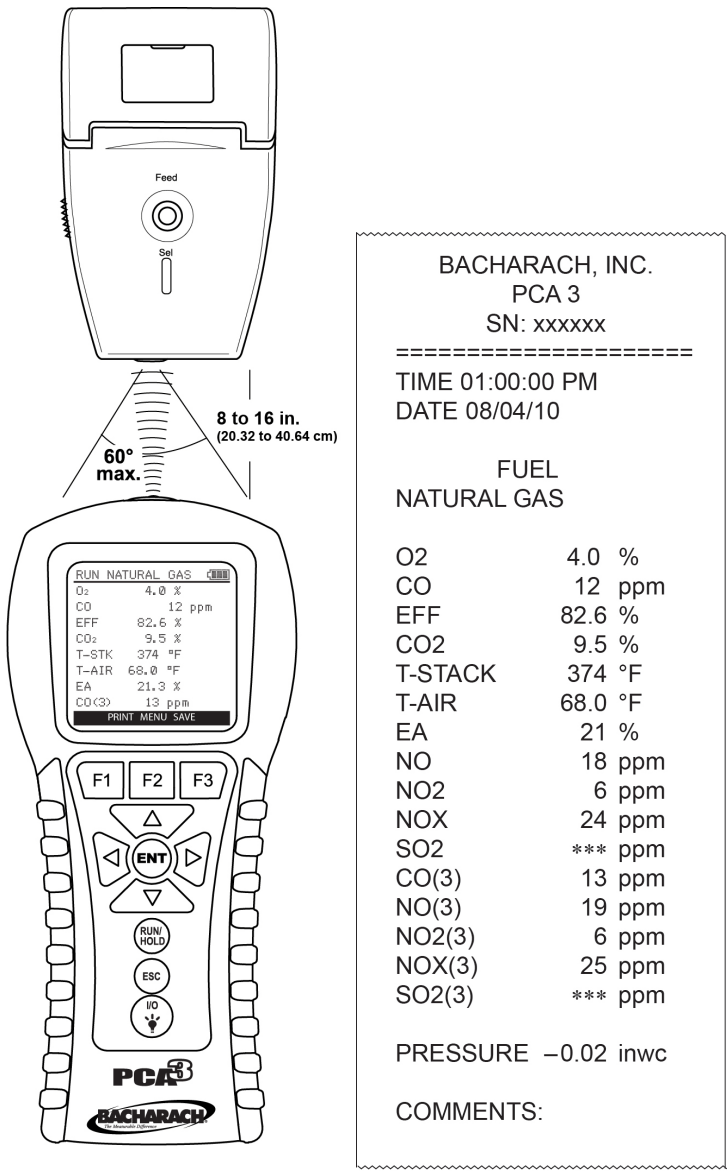

Figure 5-21. Printer Alignment and Sample Printout
2. Align the printer with the top of the analyzer as shown in Figure 5-21.
The printout shown in Figure 5-21 shows typical combustion test results of an analyzer containing O₂, CO_{LOW}, NO, and NO₂ sensors. Note that since the SO₂ sensor is not installed, three stars (* * *) appear in their data fields.